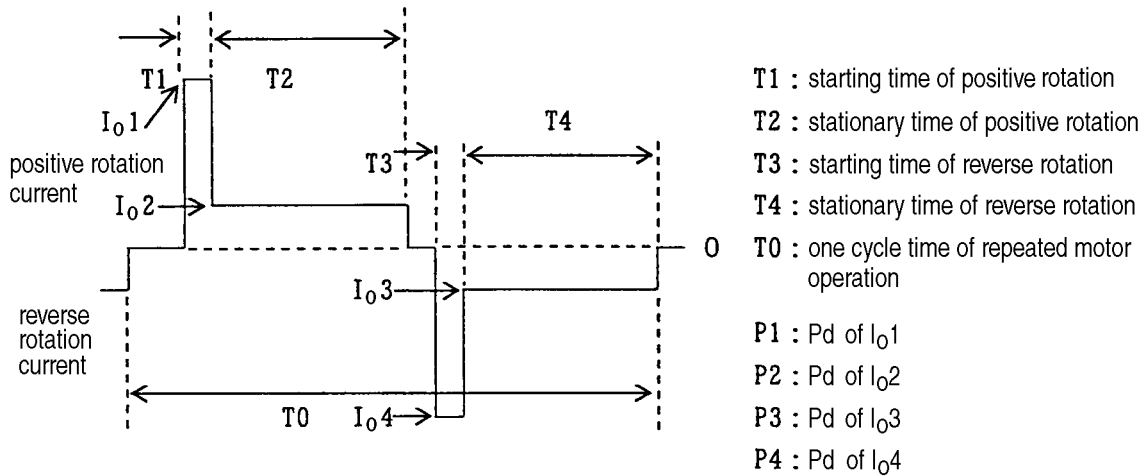
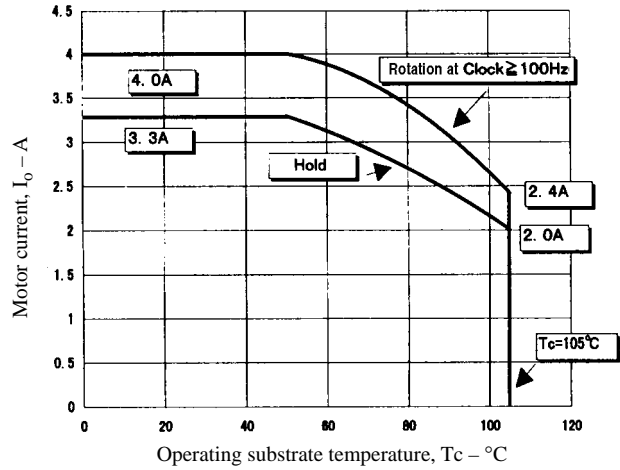

Figure 3. Timing Chart of Motor Operation
Figure 6. Pd – I_o
The size of a heat sink varies depending on the average power loss P_d in the hybrid IC. As shown in Figure 6 on page 14, P_d increases in accordance with the increase of the output current.
Since the starting current and the stationary current coexist in an actual motor operation, P_d cannot be obtained only from the data shown in Figure 6. Therefore, P_d is obtained assuming that the timing of the actual motor operation is a repeated operation shown in the following Figure 3.
The average power loss Pd in the hybrid IC upon an operation shown in Figure 3 can be obtained by the following equation (II):